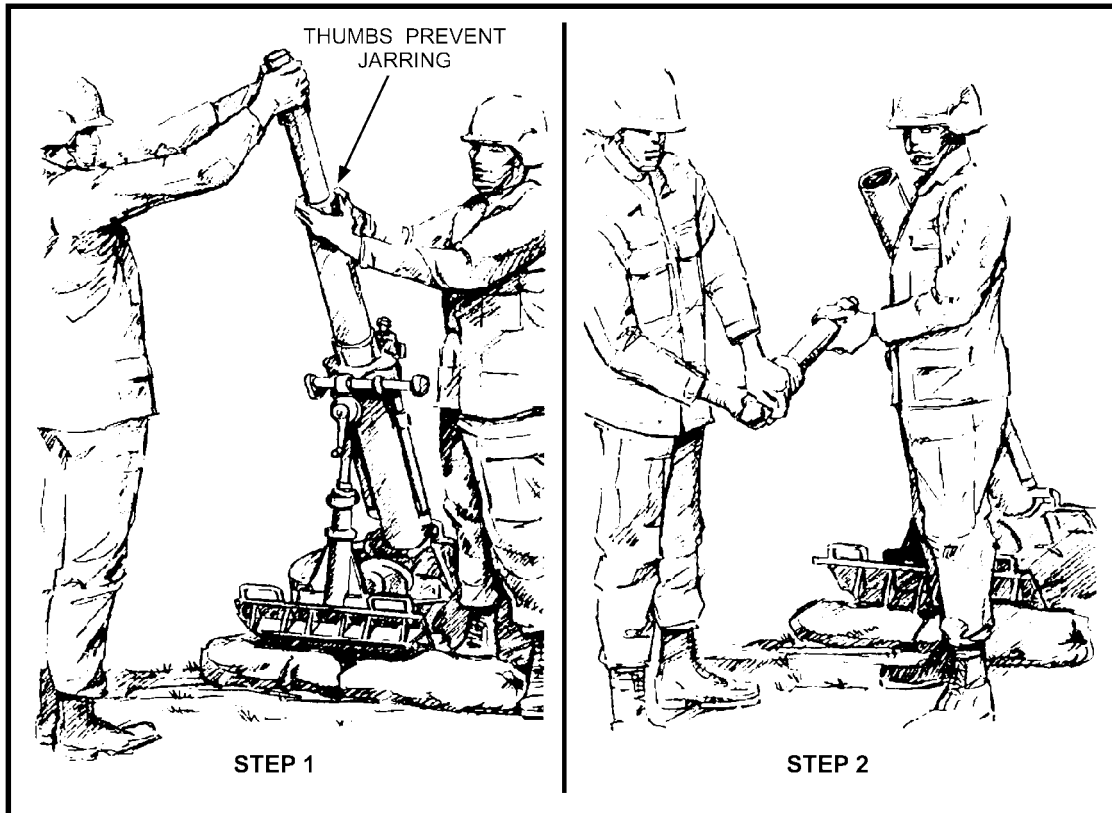

Figure A-8. Misfire procedure (60-mm subcaliber device).
(1) To remove the round, the assistant gunner gently removes the 60-mm barrel from the 4.2-inch barrel by grasping the 60-mm barrel around the muzzle with both hands and lifting (Figure A-8), ensuring that no part of his hands protrudes over the muzzle. The gunner guides the 60-mm barrel with his thumbs. When the base aluminum ring of the 60-mm barrel reaches the end of the 4.2-inch barrel, the gunner firmly grasps the base aluminum ring to prevent it from dropping and jarring the barrel. The gunner grasps the base end of the 60-mm barrel and lifts it to the horizontal. **HE DOES NOT STAND BEHIND IT.**
(2) The assistant gunner, hands still positioned around the 60-mm barrel, extends the thumbs of both hands over the edge of the muzzle. When the barrel reaches the horizontal, the gunner continues to lift the base end of the barrel until the round slides forward (Figure A-8). Once the barrel is horizontal, the base end is not lowered until the misfire has been removed.
(3) The assistant gunner's thumb stops the round when the round reaches the muzzle. He then removes it from the barrel and hands it to an ammunition bearer. The gunner shakes the 60-mm barrel to empty any foreign material from the bore and reinserts it into the 4.2-inch barrel. The assistant gunner swabs the bore.